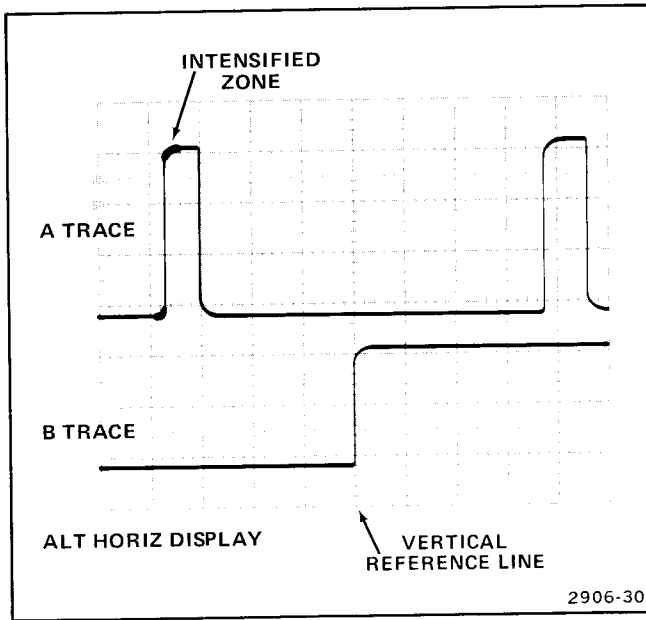

Figure 46. Time difference between repetitive pulses.
5. Rotate the DELAY TIME POSITION control to move the intensified zone to the first pulse (see Figure 46).
7. Observe the B trace display and adjust the DELAY TIME POSITION control to move the rising portion of its pulse to the vertical reference line (see Figure 46).
EXAMPLE: For the pulses illustrated in Figure 46, the first dial setting is 1.31 and the second dial setting is 8.81, with the A TIME/DIV switch set to $0.2 \mu\text{s}$.